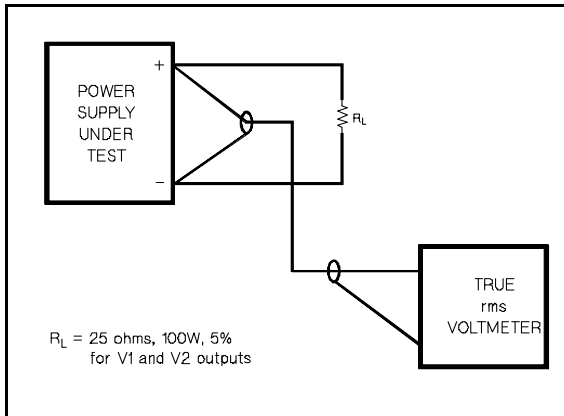

Figure A-6. Ripple and Noise rms Measurement Test Setup
- a. Connect the test equipment across the output of the V1 supply as shown in Figure A-6.
- Connect the test equipment across the output of the V1 supply as shown in Figure A-6, but replace the true rms voltmeter with the oscilloscope.